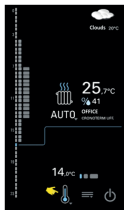

Fig.82
14.2.2 Press  , Fig.82, and follow the settings as per chapter 7;